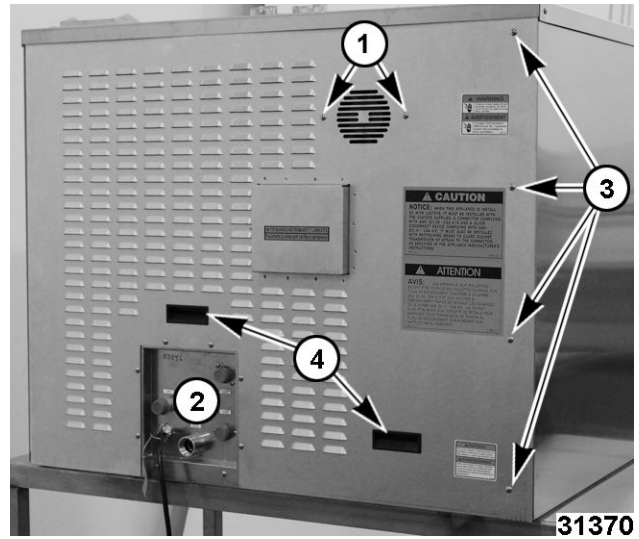

Fig. 6
2. Remove two fan screws (1, Fig. 6).
3. Remove six utility panel screws (2, Fig. 6).
5. Remove four rear panel screws (3, Fig. 6).
6. Lift with handles (4, Fig. 6) to remove.